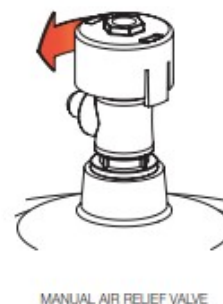

Figure 4
3. Verify that the Filter Manual Air Relief Body is in the LOCK position, and no filter components are missing, damaged or not genuine DuraTech components. (See Fig 4)
6. Place the Manual Air Relief Valve in OPEN position. (See Fig 4)